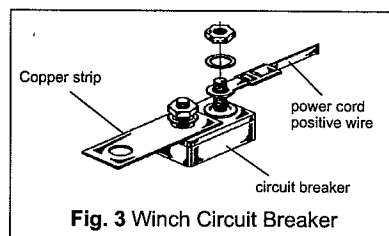

Fig. 3 Winch Circuit Breaker
4. The winch circuit breaker should come pre-connected (but un-tightened) to the positive (red) wire of winch power cord. Ensure connection is tight before use (**see Fig. 3**).